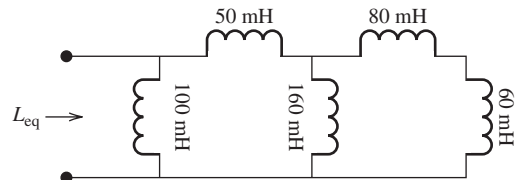

FIGURE P4.45 Inductor network.
4.45 (A)* Find the equivalent inductance of the inductor network of Figure P4.45.